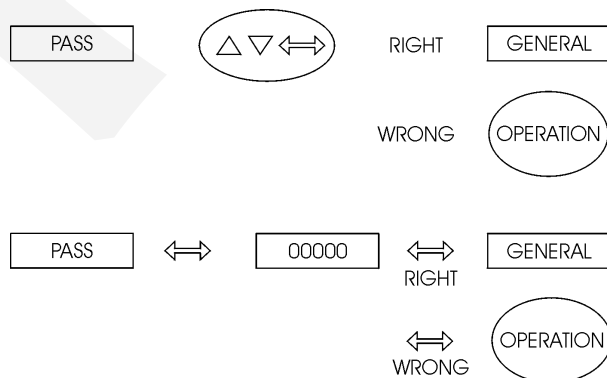

Fig. 8 - Password through key sequence or value
- ii) To display the PASS warning, indicating that the instrument is provided with a password system (a key sequence or a value), according to figure 8.
For a value password, the user must press the ENTER key for a second time in order to view the number 00000 with the right end digit blinking. The position which is blinking indicates the digit in the number to be changed by the user with the UP and DOWN keys. Move to the digits on the left by pressing ENTER. After entering all digits, press ENTER again. If the password is correct level 1 is accessed; otherwise, it returns to normal operation (see figure 8).